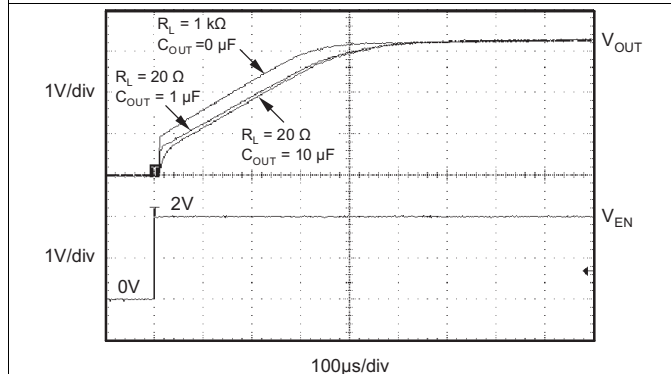

Figure 21. TPS73633 Turnon Response
The enable pin (EN) is active high and is compatible with standard TTL-CMOS levels. A V_{EN} below 0.5 V (maximum) turns the regulator off and drops the GND pin current to approximately 10 nA. When EN is used to shutdown the regulator, all charge is removed from the pass transistor gate, and the output ramps back up to a regulated V_{OUT} (see Figure 21).